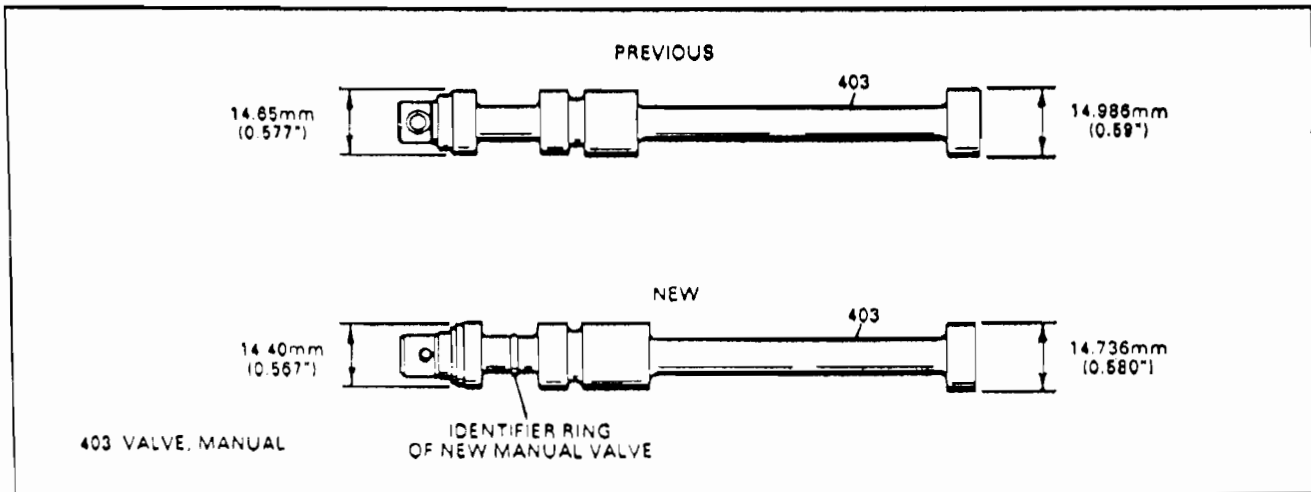

Figure 23
- (2) **NEW MANUAL VALVE** - Will have changes to the valve lands and reduced .010" in diameter for the new porting changes in channel plate. The previous and new manual valves are not interchangeable. The new manual valve can be identified by a ring between the first two lands as shown in Figure 23.